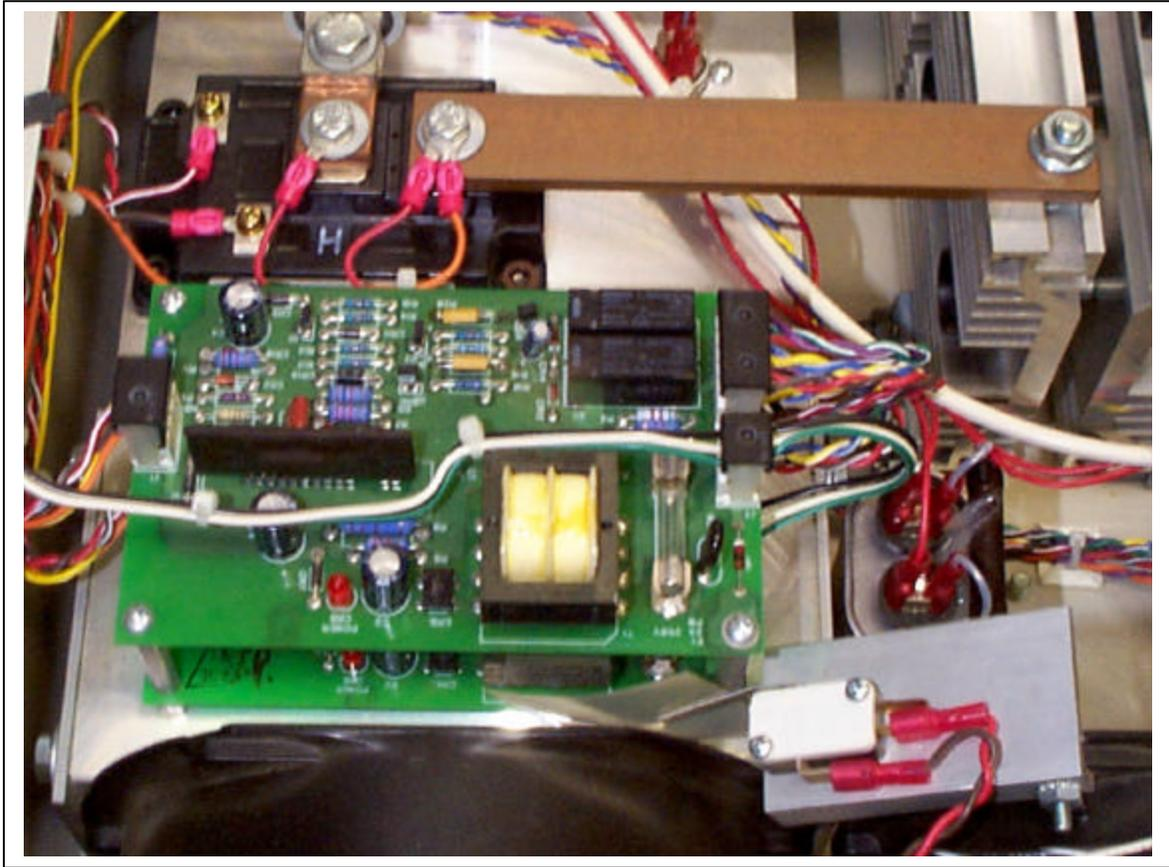

Figure 7
10. Figure 7 is a closeup of the IGBT cards that need to be replaced. Notice the old cards have RED LED's towards the front left hand side of the boards.